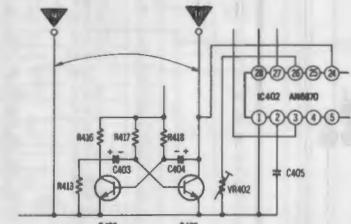

Fig. 18
② Fluorescent meter	<p>Condition:</p> <ul style="list-style-type: none"> <li>• Record mode</li> <li>• Input level controls ... MAX</li> <li>• Tape selector</li> <li>... Normal position</li> </ul> <p>Equipment:</p> <ul style="list-style-type: none"> <li>• VTVM • AF oscillator</li> <li>• ATT • Resistor (600Ω)</li> </ul> <p>1. Test equipment connection is shown in fig. 17.</p> <p>2. As shown in fig. 18, connecting the collector of Q403 and ground stops the oscillation of the astable multivibrator comprising Q402 and Q403.</p> <p>3. Supply 1kHz signal (-24dB) to the LINE IN then press the record button.</p> <p>4. Adjust the ATT so that the output level at LINE OUT becomes 0.4V (The input level at this condition is termed the standard input level).</p> <p>5. Adjustment at "-20dB":</p> <ol style="list-style-type: none"> <li>Adjust the ATT so that the input level is -20dB below standard recording level.</li> <li>Adjust VR401 so that the -20dB segment lights up in the <math>-20 \pm 0.8</math> dB range (L-CH only) (See fig. 19).</li> </ol> <p>6. Adjustment at "0dB":</p> <ol style="list-style-type: none"> <li>Adjust the ATT so that the output level at LINE OUT becomes 0.4V. (The input level at this condition is termed the standard input level.)</li> <li>Adjust VR402 so that the +1dB segment lights up in the <math>0 \pm 0.2</math> dB range of the standard input level (See fig. 20).</li> </ol> <p>7. Repeat twice between steps (5) and (6) above.</p> <p>8. Adjust ATT and check that all segments lights up when an input signal level is increased to 10dB higher than the standard input level (See fig. 21).</p>